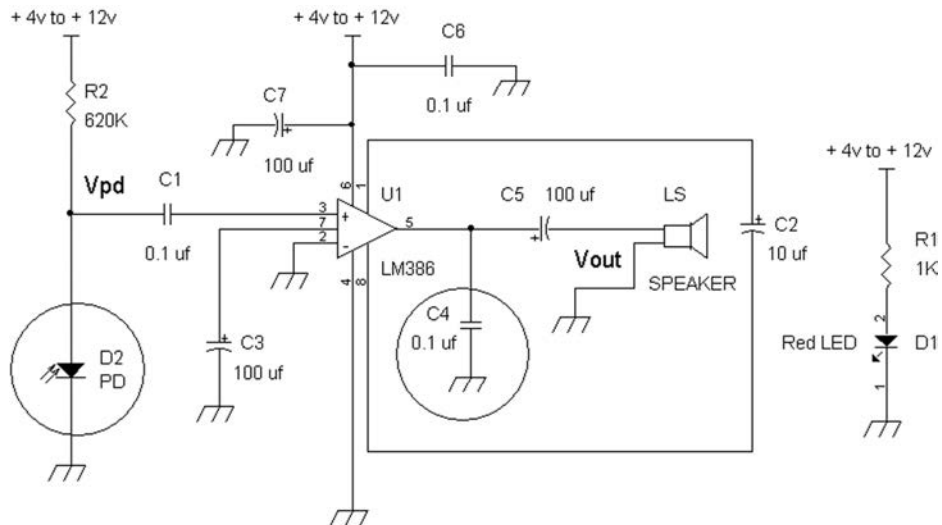

FIGURE 14-10 Original photodiode receiver design with circled problem areas.
Now let's take a look at the original receiver circuit as shown in Figure 14-10.
The original design shown in Figure 14-10 needs to be modified for reliable operation. The first problem is C4 is connected directly to the output pin 5 of the LM386 amplifier, which can lead to instability or oscillations in the output signal Vout. A series resistor will be needed with C4 to correct this problem.
If you happen to build the circuit as shown in Figure 14-10 (without any circuit correction to D2), you will still receive signals from Figure 14-9's transmitter modulated light signals, but the speaker's (LS) volume will be low.